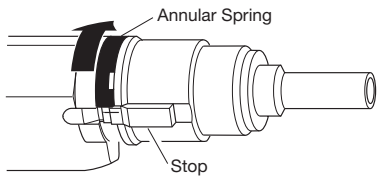

Figure 1 - Rotating Annular Spring to Uncover Stop
- Using screwdriver, lift end of annular spring and rotate spring until stop is uncovered (see Figure 1).